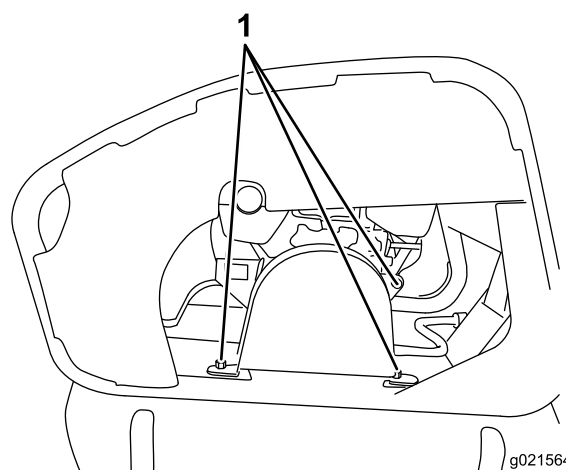

Figure 25
1. Remove the bolts holding the belt cover in place (Figure 25).